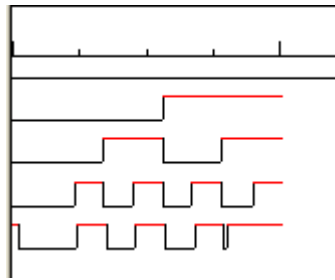

Figure 14 Timing diagram of figure 13
- The timing diagram results in figure 14.